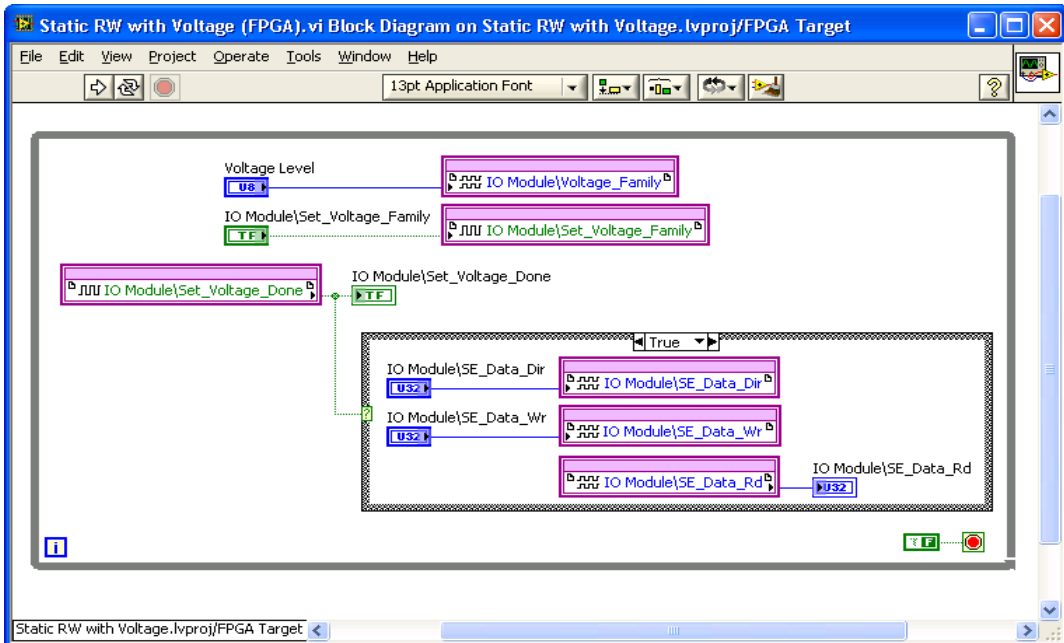

Figure 14. Static RW with Voltage (FPGA).vi Block Diagram
11. Add a **While Loop** around all six data nodes, as shown in Figure 14.
19. Wire the Voltage Level control to the **IO Module\Voltage_Family** node, as shown in Figure 14.
- Your block diagram should now resemble the block diagram in Figure 14.